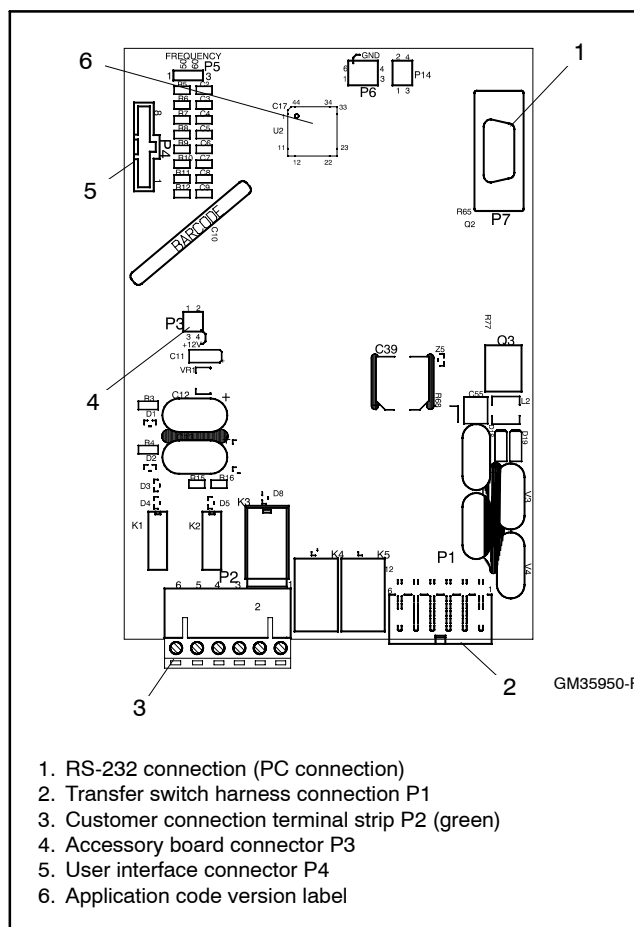

Figure 7-2 Control Board Connectors
8. Disconnect all connections to the controller circuit board. See Figure 7-2.